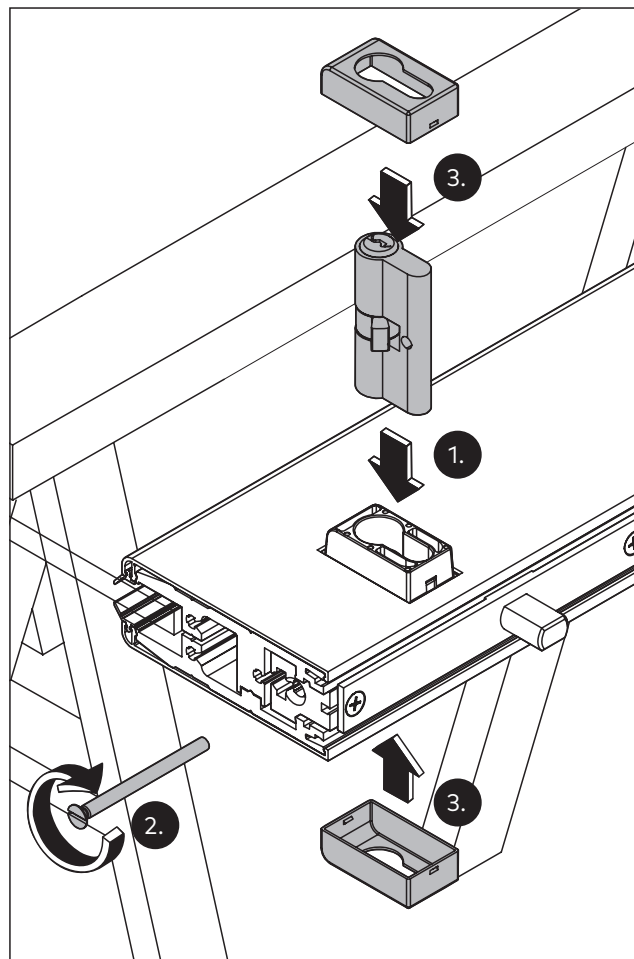

Fig. 39 Finalizing the lock module
1. Insert the locking cylinder. In doing so, ensure that the cylinder driver fits in the opening (Fig. 39/1).
2. Screw the locking cylinder with the screw from the front end (Fig. 39/2).
3. Press the end caps onto the roses (Fig. 39/3).